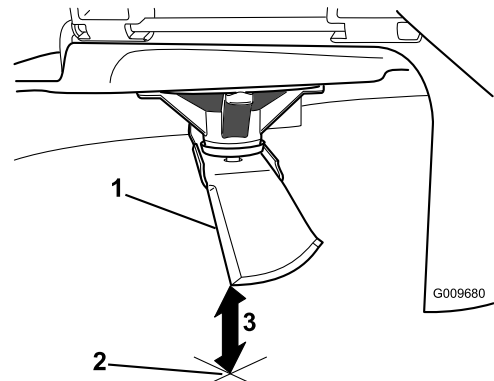

Figure 42
3. Measure from the tip of the blade to the flat surface (Figure 42).